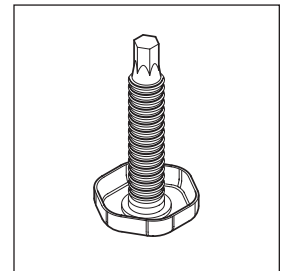

Figure 2.1 Leveling Leg
- Position your refrigerated drawer. Turn front leveling legs clockwise (Fig. 2.1) to lower the front leveling leg. Raise the front of the appliance until it is stable and level.